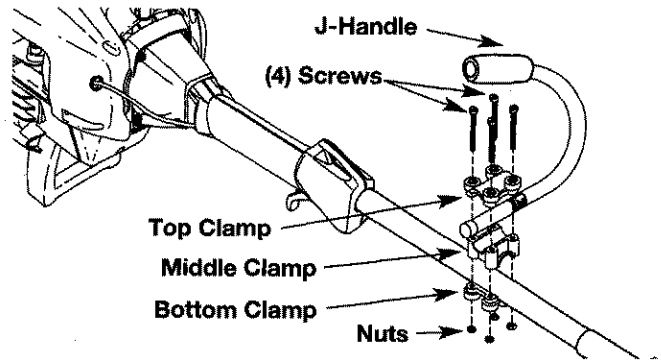

Fig. 3
2. Place the J-handle between the top and middle clamp pieces (Fig. 3).